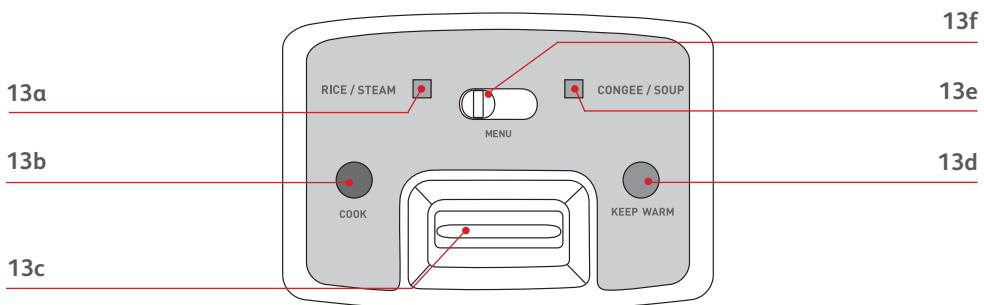

Fig.1
- Open the lid by pressing the opening button located on the handle – **Fig. 1**.